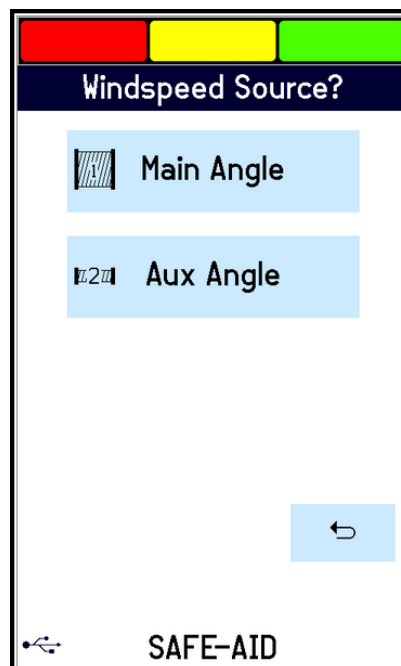

Figure 24
- Enter the source A400 amplifier where the wind speed head is plugged in (figure 24) i.e. if the wind speed meter is plugged into the auxiliary amplifier press **Aux Angle**.
1. Press the top left-hand corner and the **Password** screen will be displayed (figure 24).